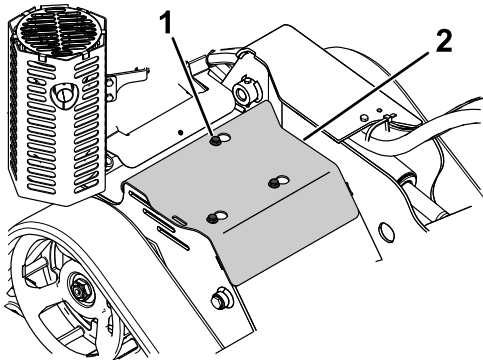

Figure 19
3. Loosen the 3 bolts securing the cover plate to the frame sequentially until the cover is loose (Figure 19).
1. Bolt (3)
5. To install the cover plate before operating the machine, slide the plate into place and tighten the 3 bolts you loosened previously (Figure 19).